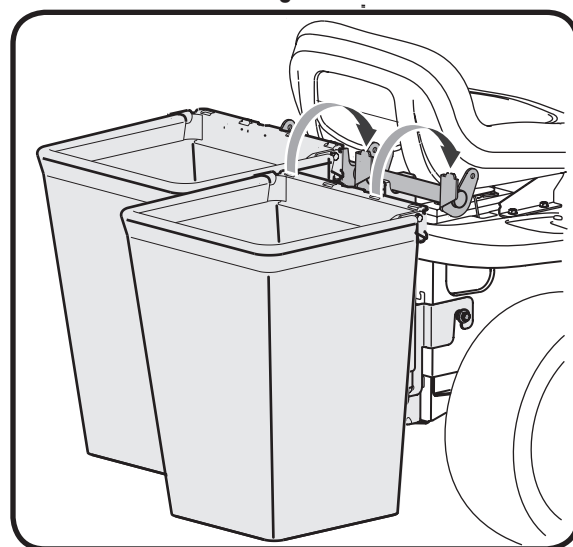

Figure 4-2
2. Attach the grass bags by hooking them onto the grass bag bracket using the slots in the grass bag and the tabs on the grass bag bracket as shown in Fig. 4-2.